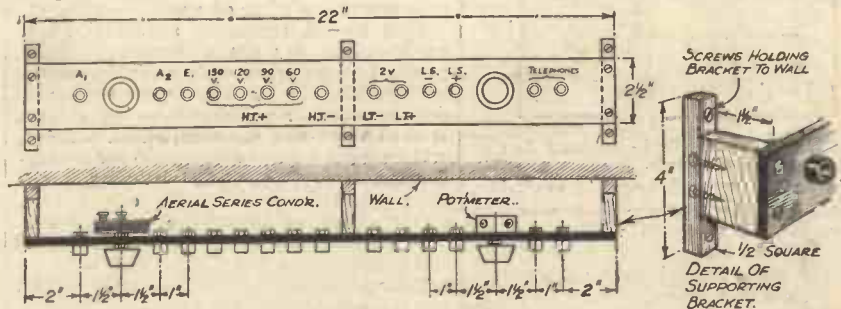

Fig. 6.—The lay-out of the universal terminal strip.
**Item 12.**—The power distribution department, or to be more homely, the universal terminal strip. This is simply an ebonite strip mounted on wooden brackets and fitted with sockets. Fig. 6 shows the